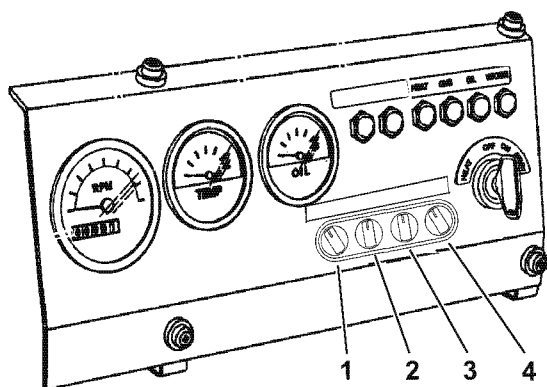

Figure 22
Note: Figure 22 Typical operator's console and switch arrangement.
A certain ON/OFF combination of switches (1) - (4) on the operator's console **Figure 22** will implement this optional feature. For details, see the operation manual for the driven machine.
Other optional features can be provided by selecting certain ON/OFF combinations of switches (1) - (4) on the operator's console **Figure 22** will implement this optional feature. For details, see the operation manual for the driven machine.